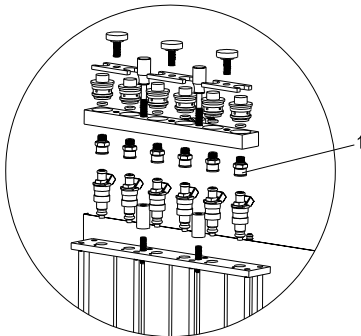

Fig. 06
- 6) If needed, choose a proper lower coupler (such as hexagonal wide sleeve, hexagonal narrow sleeve, etc.) according to the shape of the injector and put it under the injector. See Fig. 06.